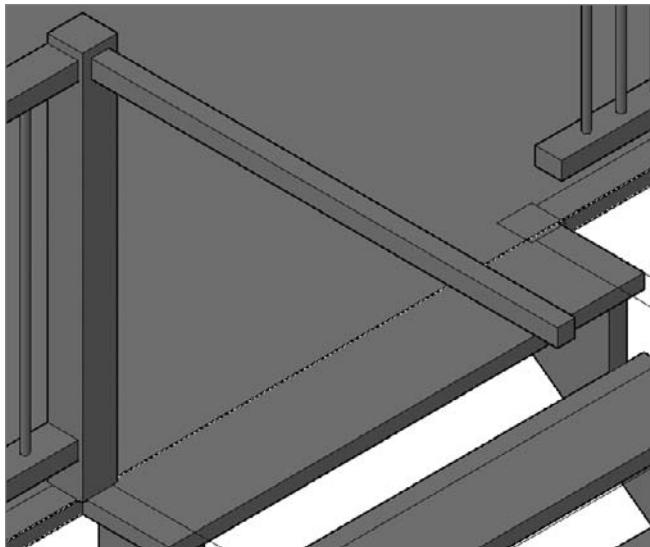

FIGURE 16.63 The box drawn perpendicular to the post
4. Move the handrail so that it is centered on the post and 1" (25 mm) from the top, as shown in Figure 16.63.